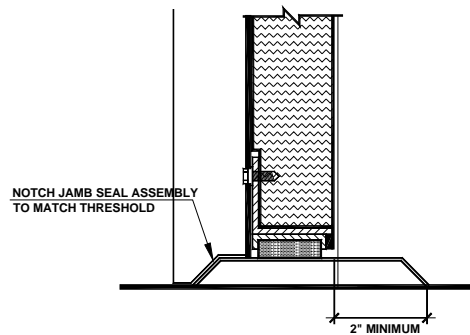

FIGURE 7
C. Notch the jamb seal retainers to match the shape of the previously installed threshold (Fig. 7). Thresholds should never be notched around the jamb seal assembly. Install the perimeter seal retainers through the elongated slots with the 1/4-20 machine bolts provided, beginning with the jamb retainers and then the head retainers and slide them to a point farthest away from the door. Install the Sound Tight seals into the retainers beginning at the top and bottom corners, working toward the center then trim any excess at the bottom. Note that the small V-shaped leg of the seal must be toward the door.